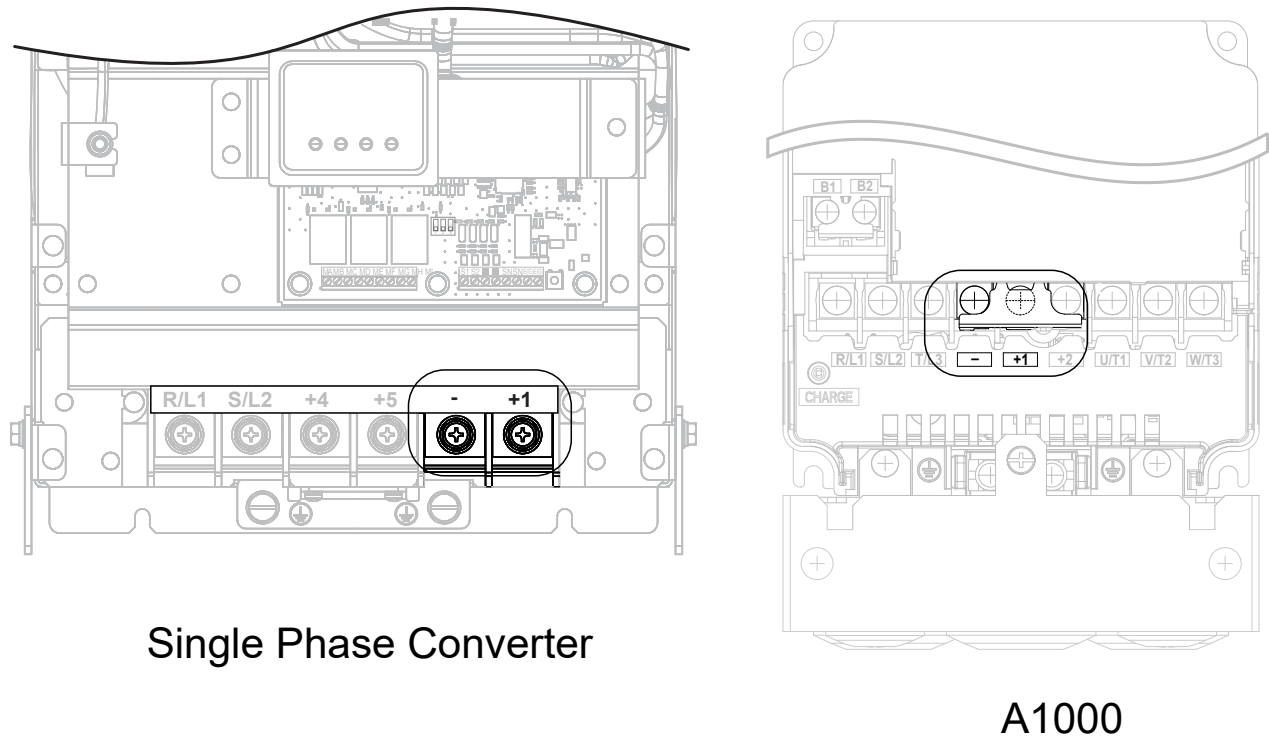
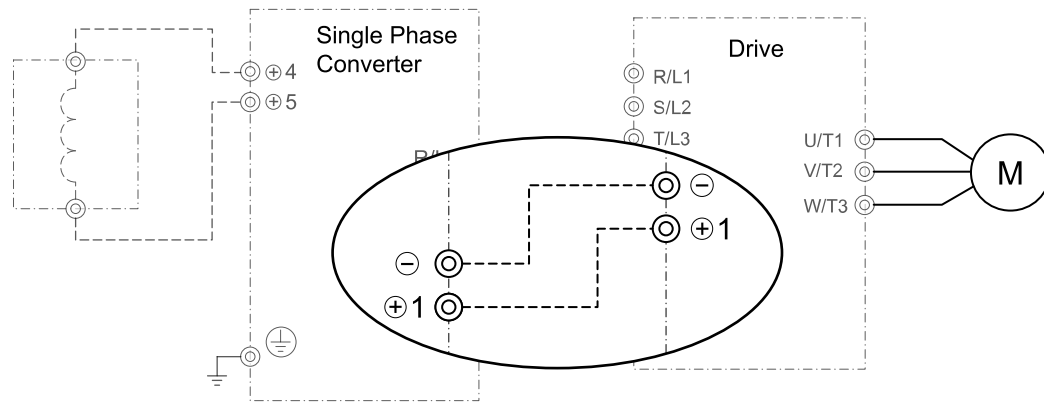

Figure 4.5 Converter and Drive Terminals
Figure 4.6 Converter to Drive Connections
4. Make power connections between the converter and the drive according to Figure 4.5 and Figure 4.6. Refer to User Installation Notes on page 12 or Input, Output, and Conductor Wire Sizes and Terminations on page 28 to select the correct wire size.